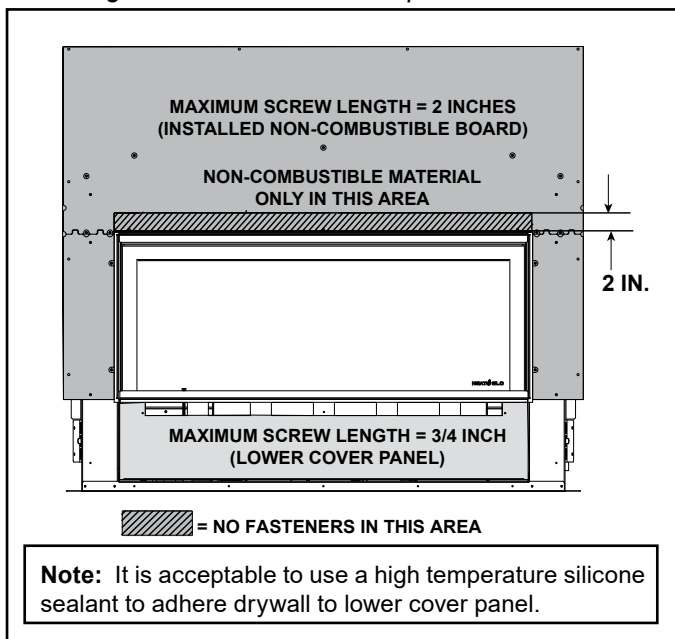

Figure 10.1 Screw Length Requirements
- Metal front of appliance may be covered with non-combustible materials only, excluding lower cover panel. See Figure 10.1.
- Seal gaps between the finished wall and appliance top and sides using a 300 °F minimum sealant. Refer to Figure 10.1.
When finishing the wall around the fireplace, it is critical that wall sheathing be fastened properly. Wall sheathing fasteners, such as screws or nails, are not permitted in some locations. See Figure 10.1.
It is acceptable to pre-drill holes and use self-tapped screws in the factory-included non-combustible board which may be used to lathe (a backer for tile, marble, etc.). Screws being installed through the installed non-combustible board should be self-tapping type with a maximum length of 2 inches. See Figure 10.1.
When installing finish material on the lower cover panel, DO NOT drill or install screws longer than 3/4 of an inch. Screws longer than 3/4 of an inch could penetrate the lower cover panel causing damage to components or penetrate the gas line. See Figure 10.1.
- Step 1:** Fill all gaps and joints between the non-combustible board pieces and the drywall with a general purpose chemically setting joint compound such as Durabond® 45 Joint Compound manufactured by USG (Sheetrock® brand), recommended by Hearth & Home Technologies. Use a drywall knife to firmly press the joint compound into all gaps. See Figure 10.1. Allow these joints to dry.